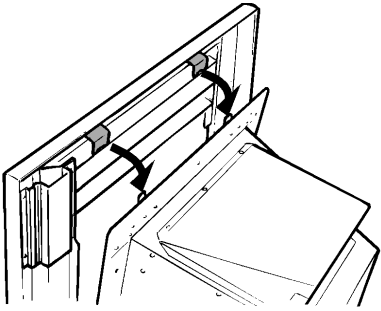
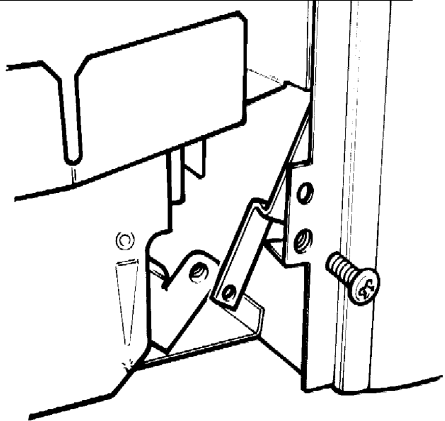

Figure 28. Front Surround Top Location
Figure 29. "Visage" Front Surround Bottom Location
11.2.2 Place the front surround against the fireplace front surface so that the two retaining plates at the back of the surround are directly above the two upper retaining brackets at the top of the convection box. Lower the surround unit making sure that the retaining plates locate fully over the brackets on the convection box (See figure 28). Swing the bottom control linking bar towards the centre of the fire to clear the right side of the surround. Slide the surround unit sideways, if necessary, to align the bottom fixing holes with those in the convection box. Fix the bottom of the surround unit to the convection box with two screws (See figure 29).